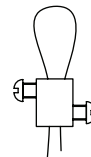

Fig. 2
4. Reserve extra power cord (D) and steel cables (E) in the canopy (G), and adjust the cable stops (H) so they are 12" from the canopy by loosening the screws and sliding the stops along the cable. Tighten the screws to secure safety cable (Fig. 2).
5. Attach mounting plate (J) to the outlet box (A). Secure with outlet box screws (K).
- a. Connect the LED driver's (L) live wire (black) to the live outlet box wire.
- b. Connect the LED driver's (L) neutral wire (white) to the neutral outlet box wire.
- c. Connect the fixture's ground wire (green or uncoated) to the ground outlet box wire. If not ground is present in outlet box, connect fixture's ground wire to the mounting plate (J) using the green screw (included).
- d. Carefully place connections in outlet box (A).
7. Install the canopy (G) to mounting plate (J) by inserting the pins (M) on the canopy into slots (N) on the mounting plate. Slide the canopy to the side to lock.